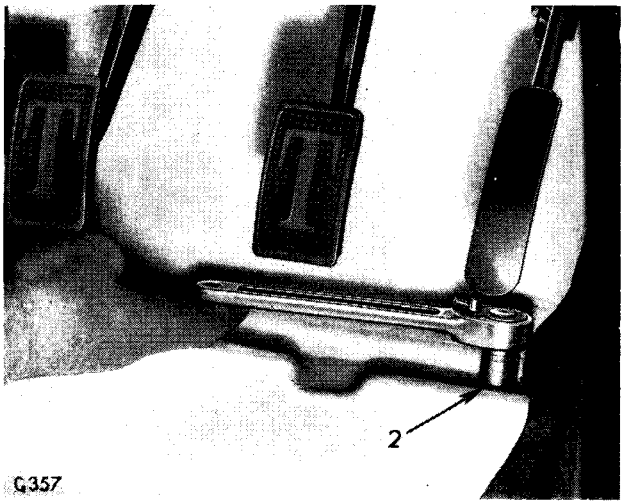

Fig. 4. Toe board mounting points
Two at the toe-board (2), Fig. 4;